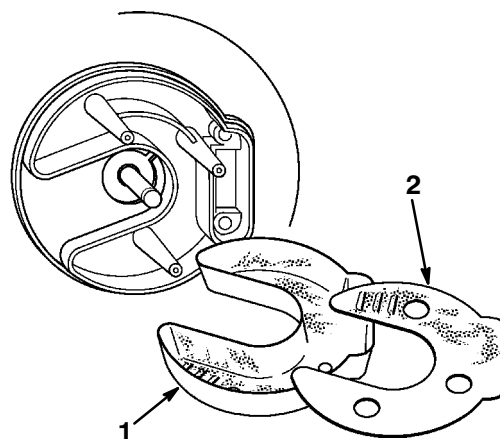

Figure 34
6. Remove the capscrews that attach the muffler cover and the baffle plate to the engine mounting plate (Fig. 34).
12. Install the baffle and the muffler cover to the engine mounting plate (Fig. 34). Torque the muffler capscrews to 155 in-lb (13 ft-lb or 18 N·m).